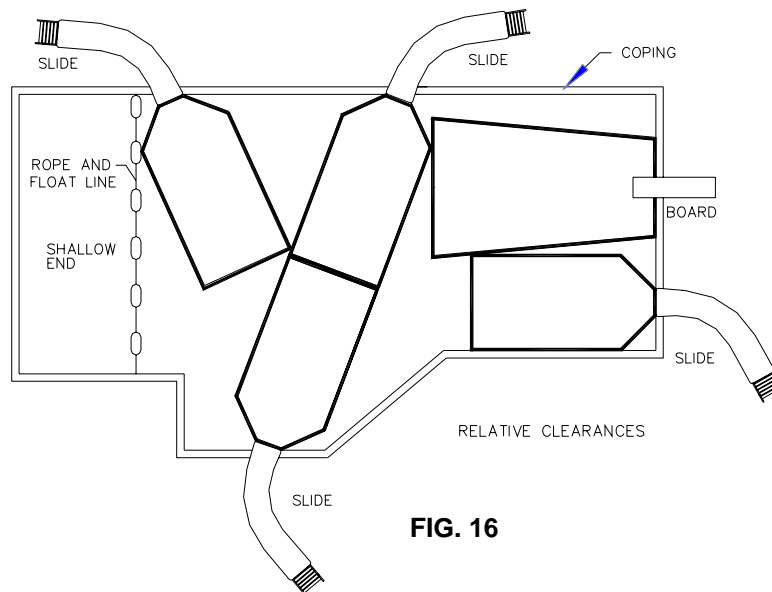

FIG. 16
- C. The minimum clearance area of a slide or diving board shall not intersect any coping or rope and float line as shown in **FIG. 16**. The minimum clearance area of a slide or diving board may intersect each other provided that they are not used simultaneously.